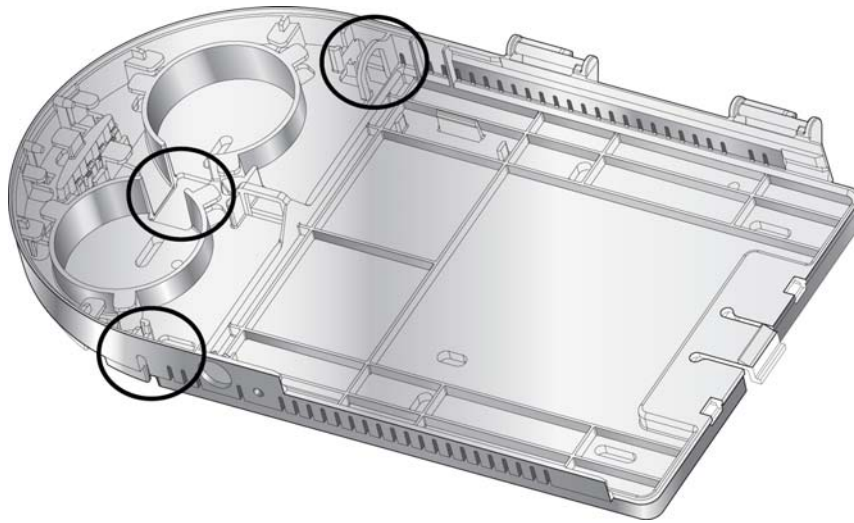

Figure 2: Empty unit with the fiber cable points-of-entry identified.
- ☐ Determine the point-of-entry for the fiber: bottom, top or rear of the unit. (Figure 2)